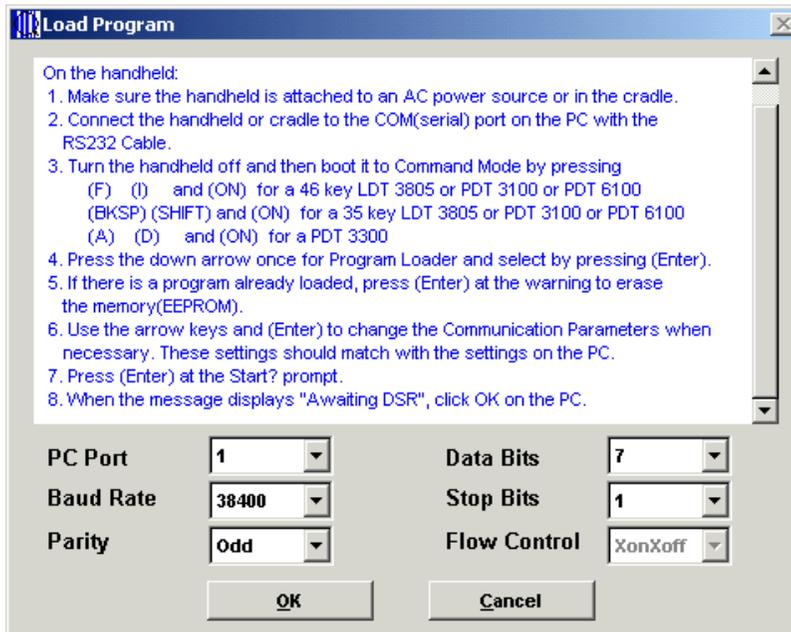

Figure 19. Configuring the COM port
12. Click **Handheld > Load Program**. Figure 19 appears.
13. Change the settings to match Figure 19.
14. Follow the instructions in Figure 19. Click **OK** when you have finished these steps.